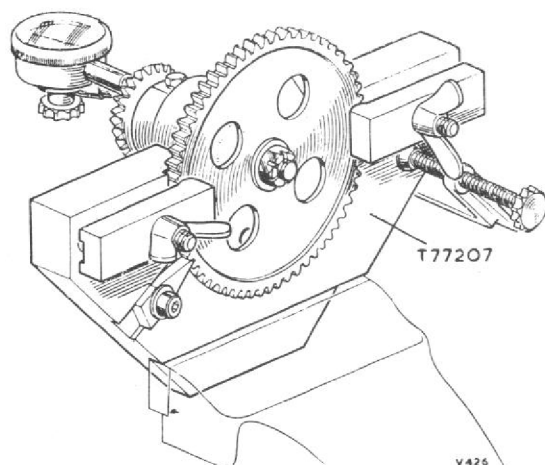

Fig. 15. Checking the end float of the air compressor drive
- (3) Locate the assembly on the drive gear in vice block T77207; tighten the nut.
- (4) Clamp a dial test indicator to the vice block as shown in fig. 15 and check that the end float is within the limits; insert split pin (Part No. SP9-C8) and lock in the approved manner.